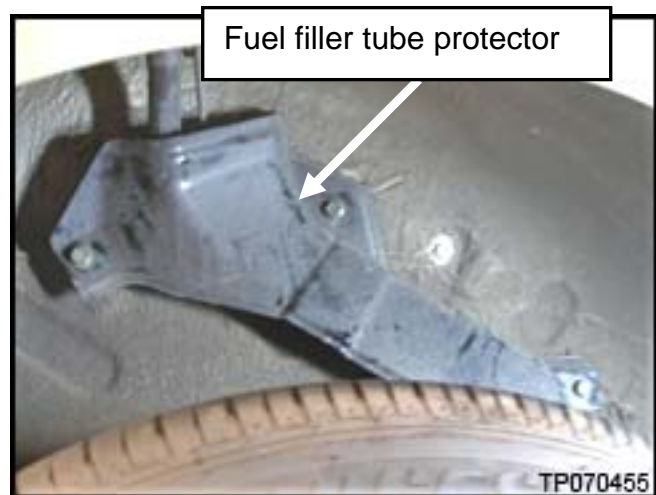

Figure 2
4. Remove the fuel filler tube protector to access the bolts on the right side of the rear wheel housing area (see Figure 2).